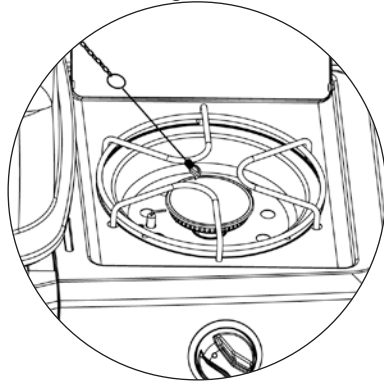

Figure 9
- After lighting, observe the burner flame, make sure all burner ports are lit and flame height matches illustration (Figure 9).